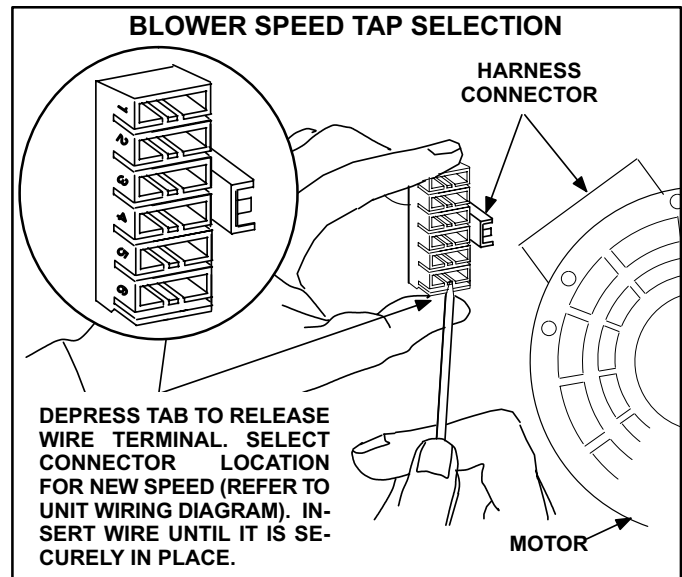

FIGURE 17
- Depress harness connector tab to release wire terminal. Select connector location for new speed (refer to unit wiring diagram). Insert wire terminal until it is securely in place. See figure 17.